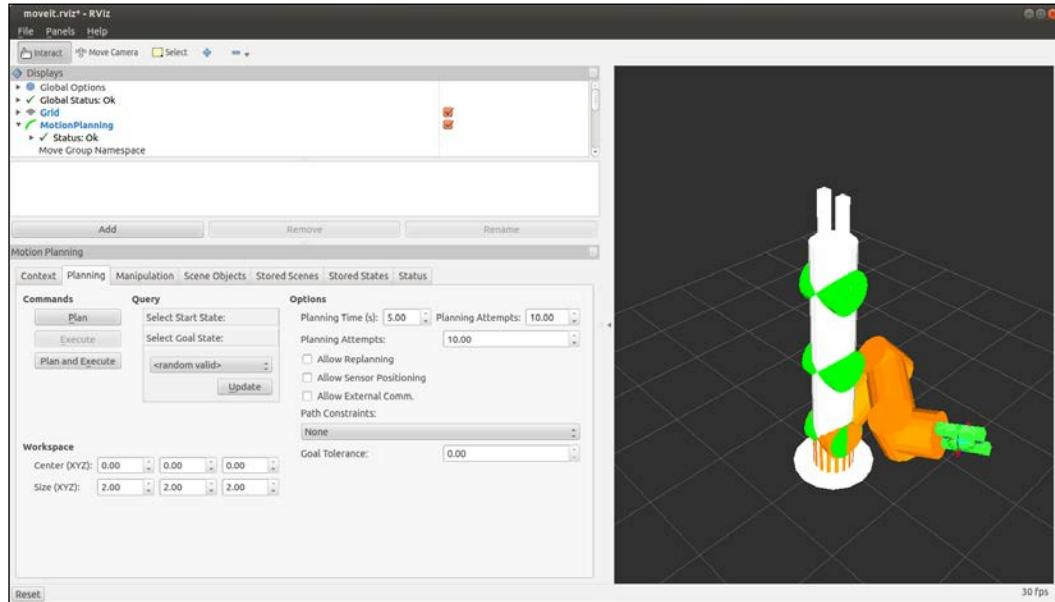

Figure 12: Planning tab and goal position visualization in RViz plugin
*Figure 12* shows the planning tab as well as a visualization of the robotic arm in both white and orange. The former is the current state of the arm, and the latter is the goal position defined by the user. In this particular case, the goal position has been generated using the tools in the Query panel. Once the user is happy with the goal state, the next step can be to either plan to visualize how the arm is going to move or plan to execute it to not only visualize the movement but also move the arm itself.